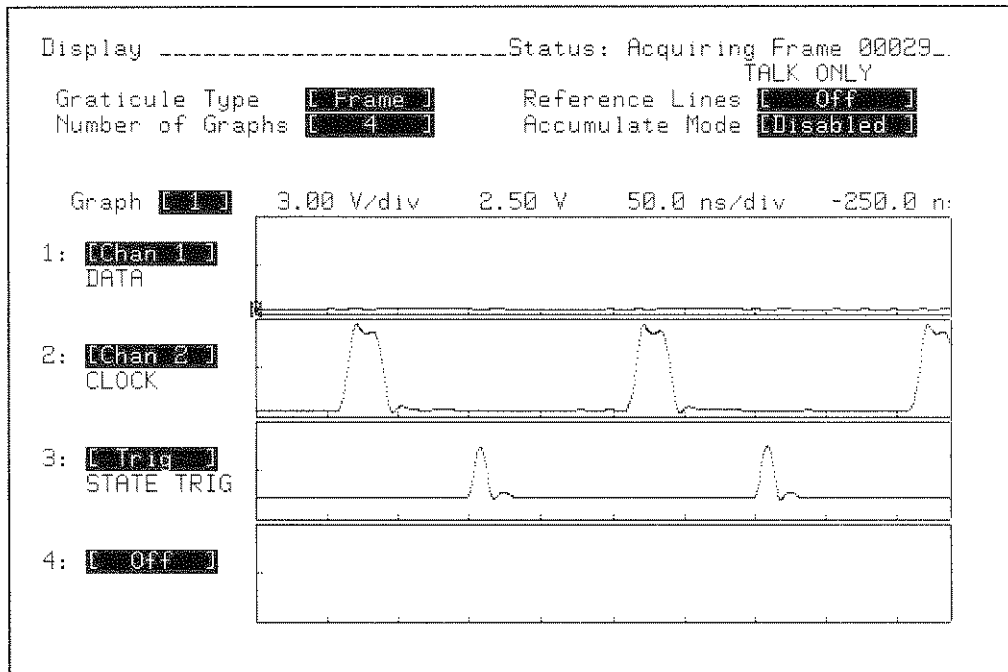

Figure 9-24. DISPLAY Configuration and Clock Pulse Width Test Waveforms
10. Configure the display as shown in figure 9-24. Observe the two waveforms displayed on the 54200D. The two waveforms should appear similar to those shown in figure 9-24.